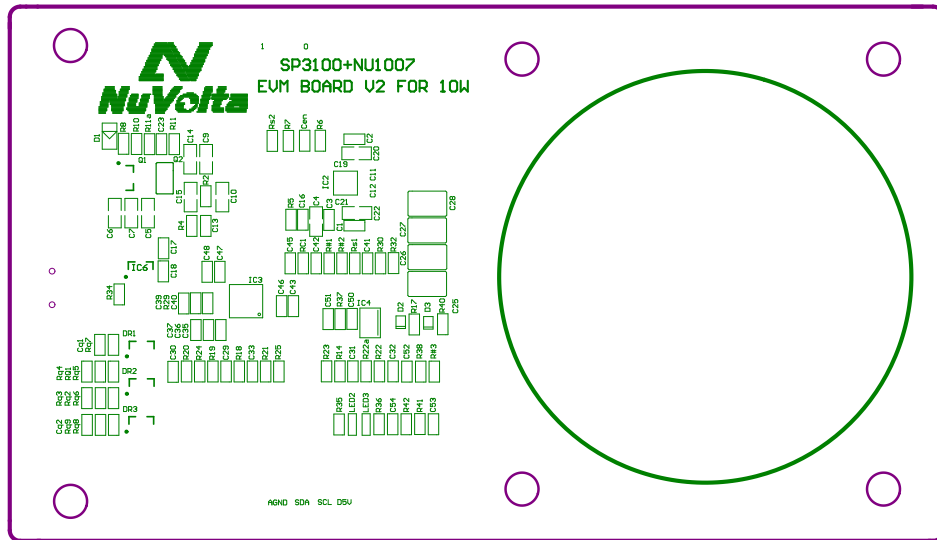

Figure 2. Top Overlay
- Separate the analog-ground plane from the power-ground plane, and use only one point to join them. Please refer to the R34 of Figure 2.
- Place small-size  $\text{Xf}$  input capacitors as close as possible between the Vin pin and PGND pin. These capacitors can effectively filter out high-frequency noises due to their low ESR and ESL. Please refer to C19 and C21 in Figure 2.